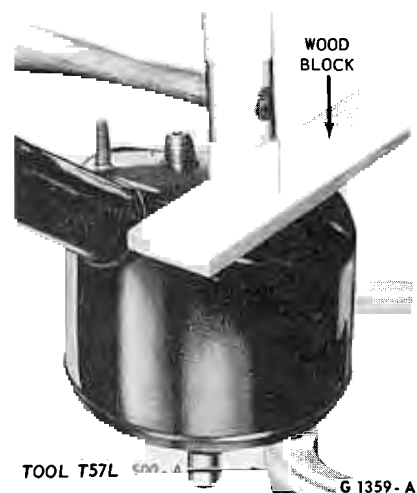

FIG. 23—Installing Reservoir on Pump
4. Install the reservoir on the pump and O-ring seal with a plastic or rubber hammer and a block of wood as shown in Fig. 23. Tap at